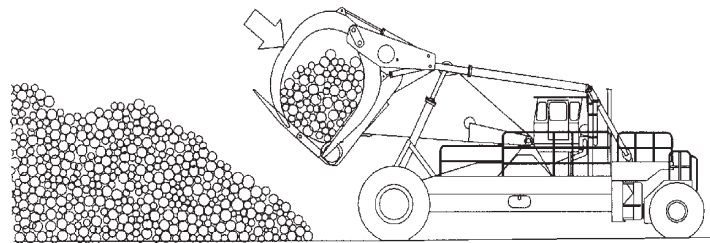

Fig. 5-19
4. Tilt the carriage back fully and tightly clamp the load. Back away and lower the load. See Fig. 5-19.